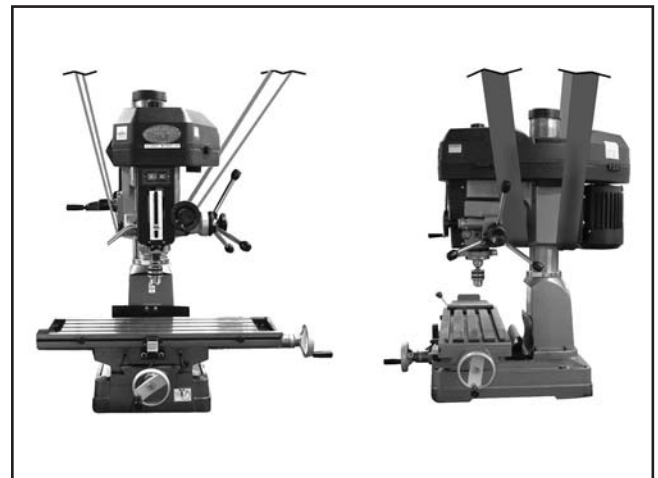

Figure 6. Typical lifting strap position.
4. Place lifting straps under the head of the machine, as shown in **Figure 6**, then connect them to a forklift. Be sure that the straps connect to the forklift far enough apart that the straps are not resting on the metal pulley cover.